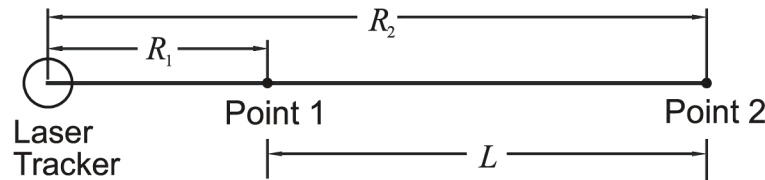

Figure 9-2 Laser Tracker Buck-In geometry
A special case is the outside buck-in measurement in which the Laser Tracker is aligned with points 1 and 2 as shown in Figure 9-2.
Formula for Ranging MPEs (positions 36-40): Figure 9-2, and Equation (7) of this manual.